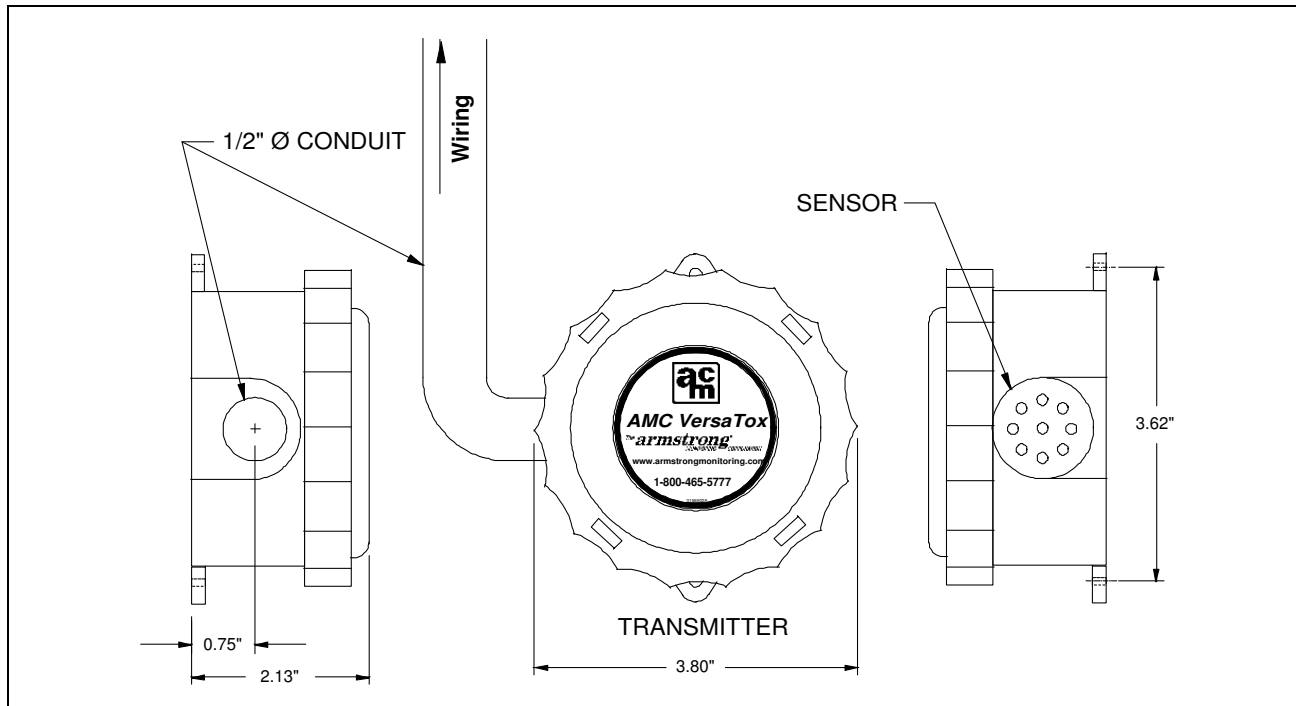
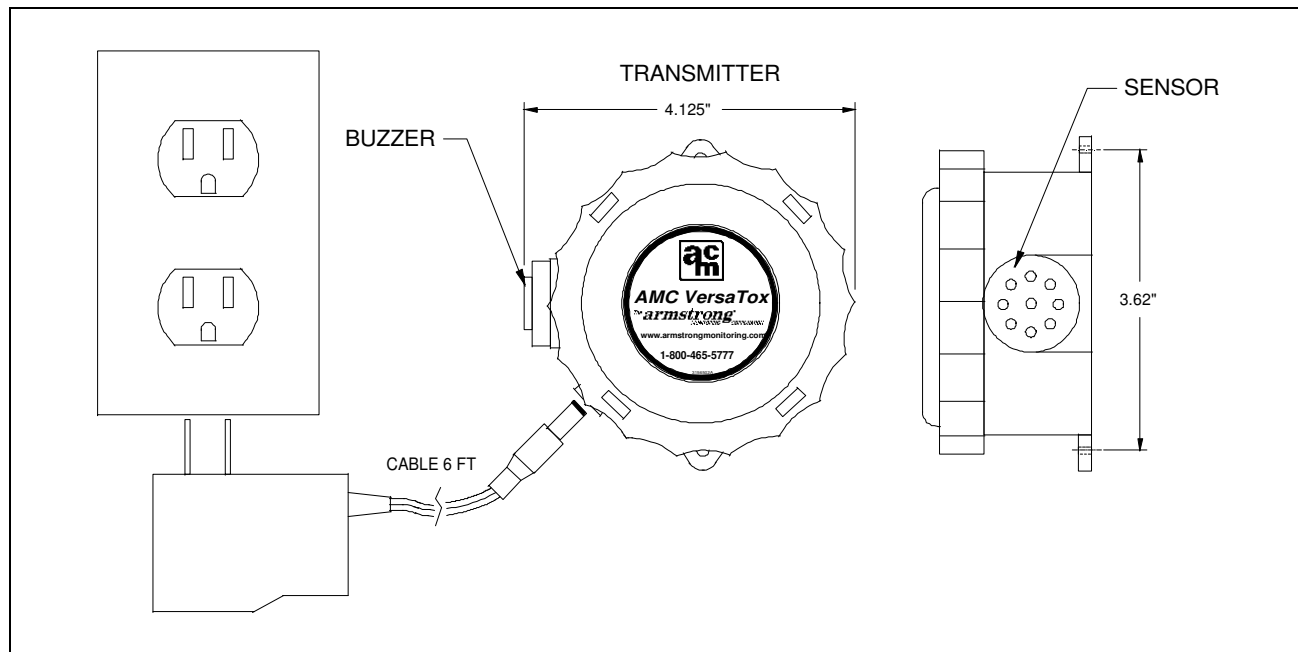

Figure 4-1 Conduit Mounting
Figure 4-2 120VAC Power Supply with Buzzer Mounting
**Mount enclosure with the sensor located as shown in Figure 4-1 and Figure 4-2. This will ensure correct orientation. It is recommended to turn off supply power before removing or replacing the transmitter or sensor.**